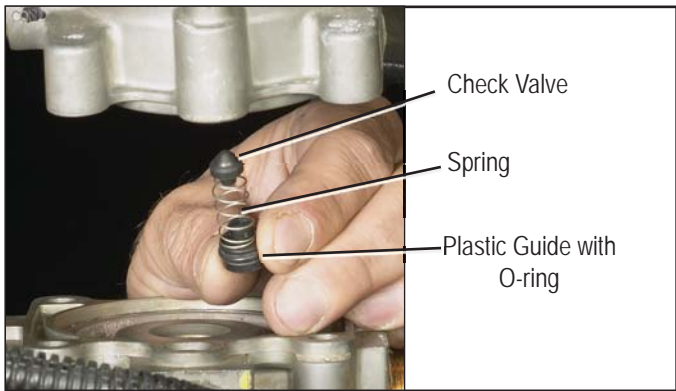

Figure 6 - *INTERNAL CHECK VALVE*
- Remove the plastic guide, spring and check valve from the valve bore and discard. Note: The check valve may stick to its seat in the upper body. Be sure that all of the components are removed before going to the next step. Refer to Figure 6.